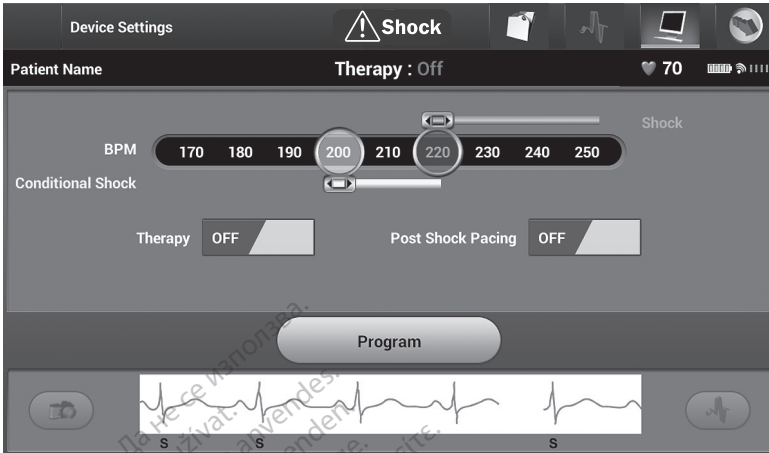

Figure 22. Device Settings screen
3. Select the Device Settings icon on the Navigation Bar to display the Device Settings screen (Figure 22 Device Settings screen on page 33).